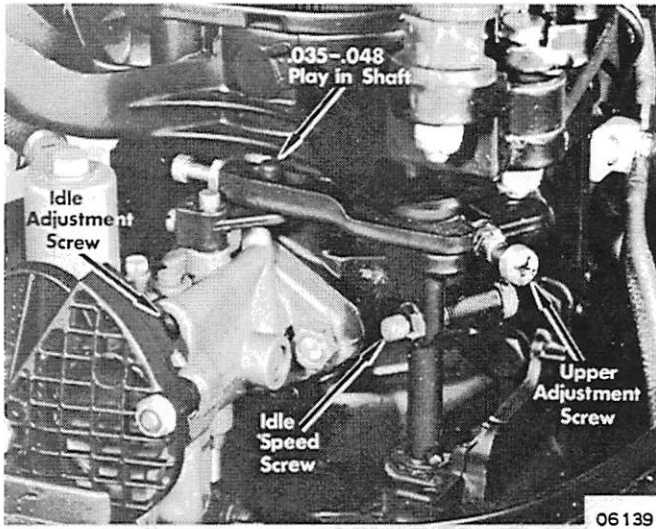

Figure 5. Carburetor Cluster Adjustment
13. Adjust upper screw in vertical shaft while wiggling carburetor cluster until there is .035" - .048" play between pickup screw and carburetor. (Figure 5)
9. Adjust upper screw in vertical shaft while wiggling carburetor cluster until there is .035" - .048" play between pickup screw and carburetor. (Figure 5)